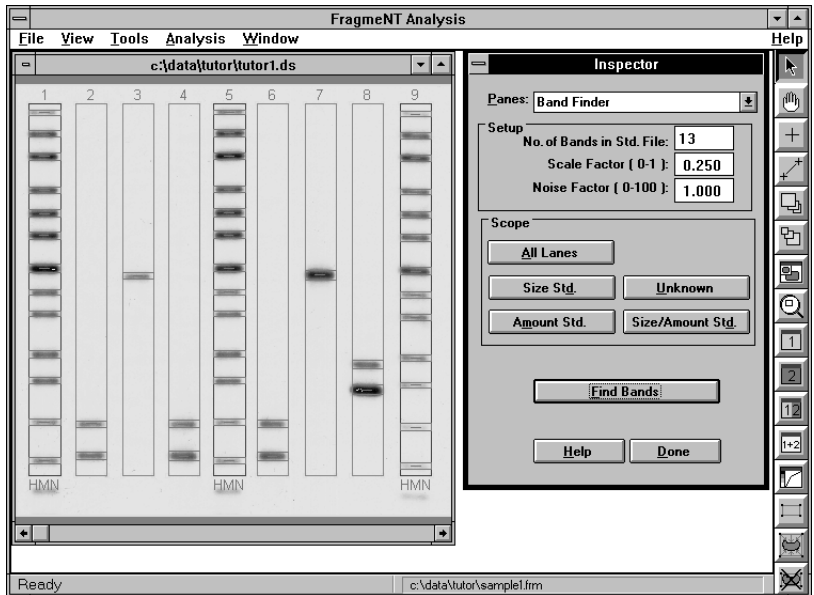

Figure 3-11. Finding bands.
6. Click **Done**. The Band Finder inspector appears (figure 3-11).
The Band Finder inspector (figure 3-11) initiates and controls the automatic band-finding process. When the Band Finder inspector appears, the Setup area displays the number of bands in your standards file as well as the default band-finding parameters.